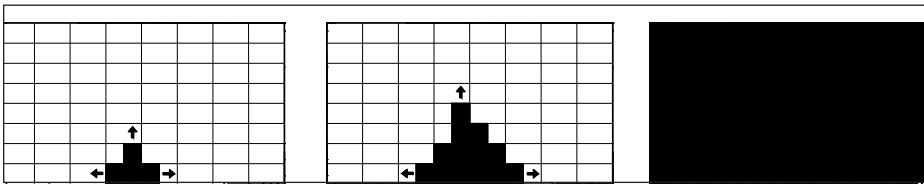

Figure 37: Module Installation Orders
2. Start in the bottom middle of the display and then install left and right. Then move up 1 row. Refer to **Figure 37**.